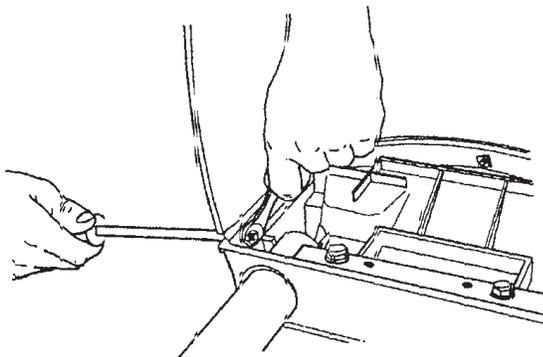

Figure C-4
10. Do the same for the remaining four holes in the leg. After all five screws are attached, use a medium screwdriver and a 7/16" wrench to tighten only enough to allow movement with firm pressure. See Figure C-4.